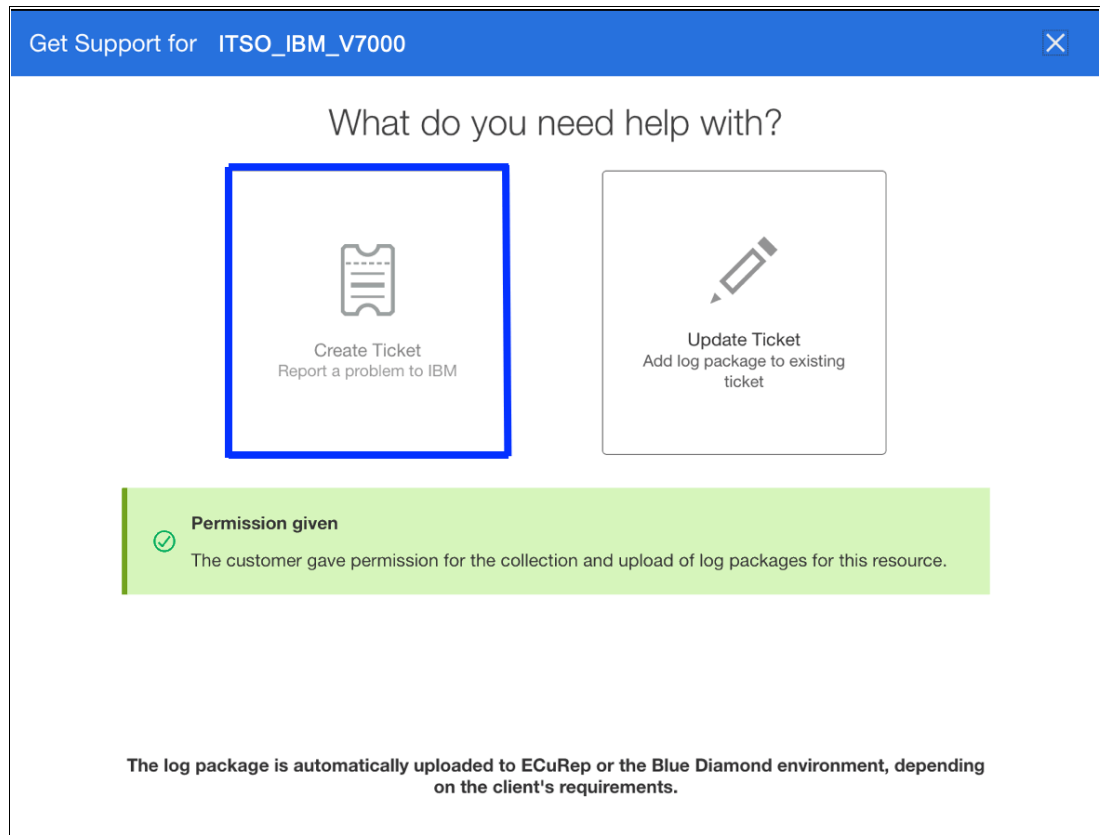

Figure 10-14 Create ticket
2. Figure 10-14 shows you the panel where you can either create a new ticket or update a previously created one.